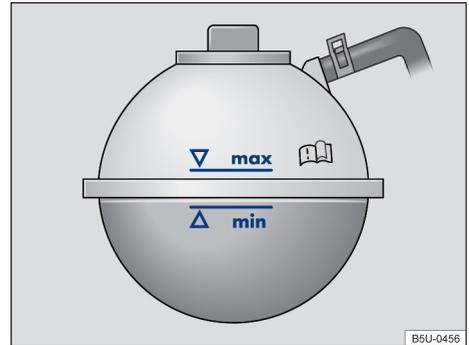

Fig. 156 On the engine compartment: marking on the coolant expansion tank.
- Check the coolant level at the side marking of the expansion tank when the engine is cold → Fig. 156.
- The coolant level must be between the marks on the expansion tank → Fig. 156. **Do not fill up over the top line of the marked area “max”** → .
- Do not fill coolant above the top of the marked area “max” → Fig. 156. Otherwise the excess coolant will be pressed out of the cooling system when the engine is hot and could cause damage.